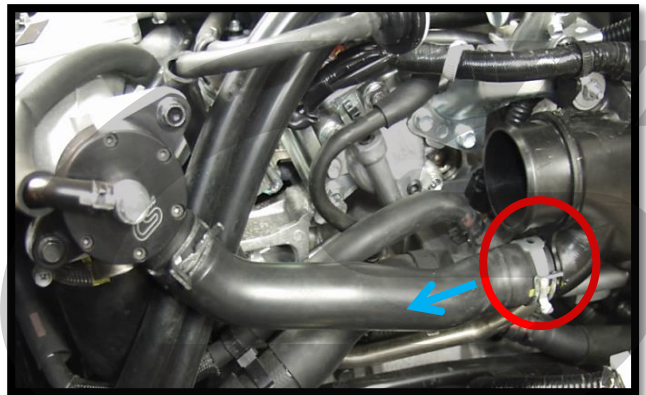

Figure 3a
- a. Using pliers, release the hose clamp connecting the bypass valve (BPV) hose to the TIP (clamp circled in red in Figure 3a). Slide the clamp back along the tube.
- b. Pull the end of the BPV hose off the end of the TIP. Pull in direction shown with blue arrow in Figure 3a.